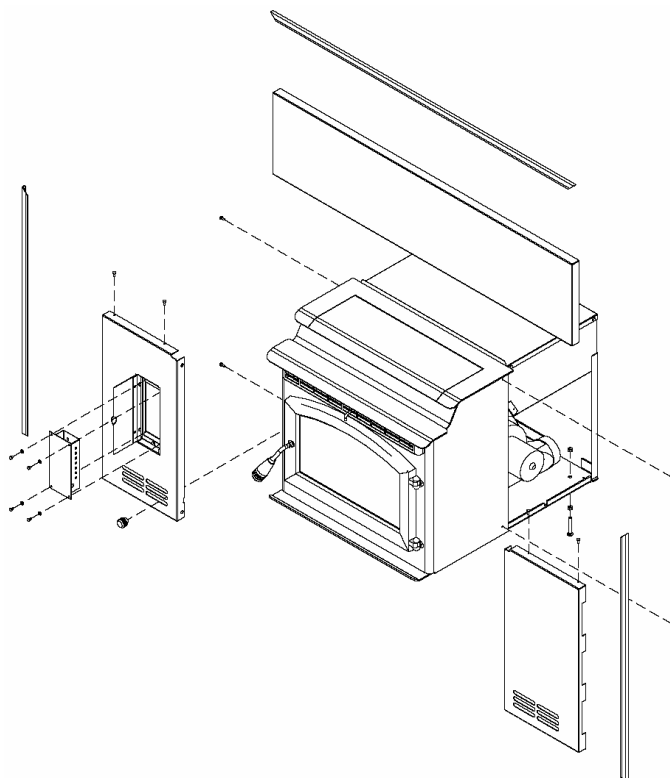

FIGURE 15
Follow the instructions packaged with the P23 Flashing set part C-P23-MEDFL-C or C-P23-LGFL-C. (Refer to Figure 15)
4. Attach flashing (refer to Figure 15), route power cord out the side nearest a 120V receptacle. Slide in insert.
6. Attach flashing (refer to Figure 15), route power cord out the side nearest a 120V receptacle. Slide in insert.